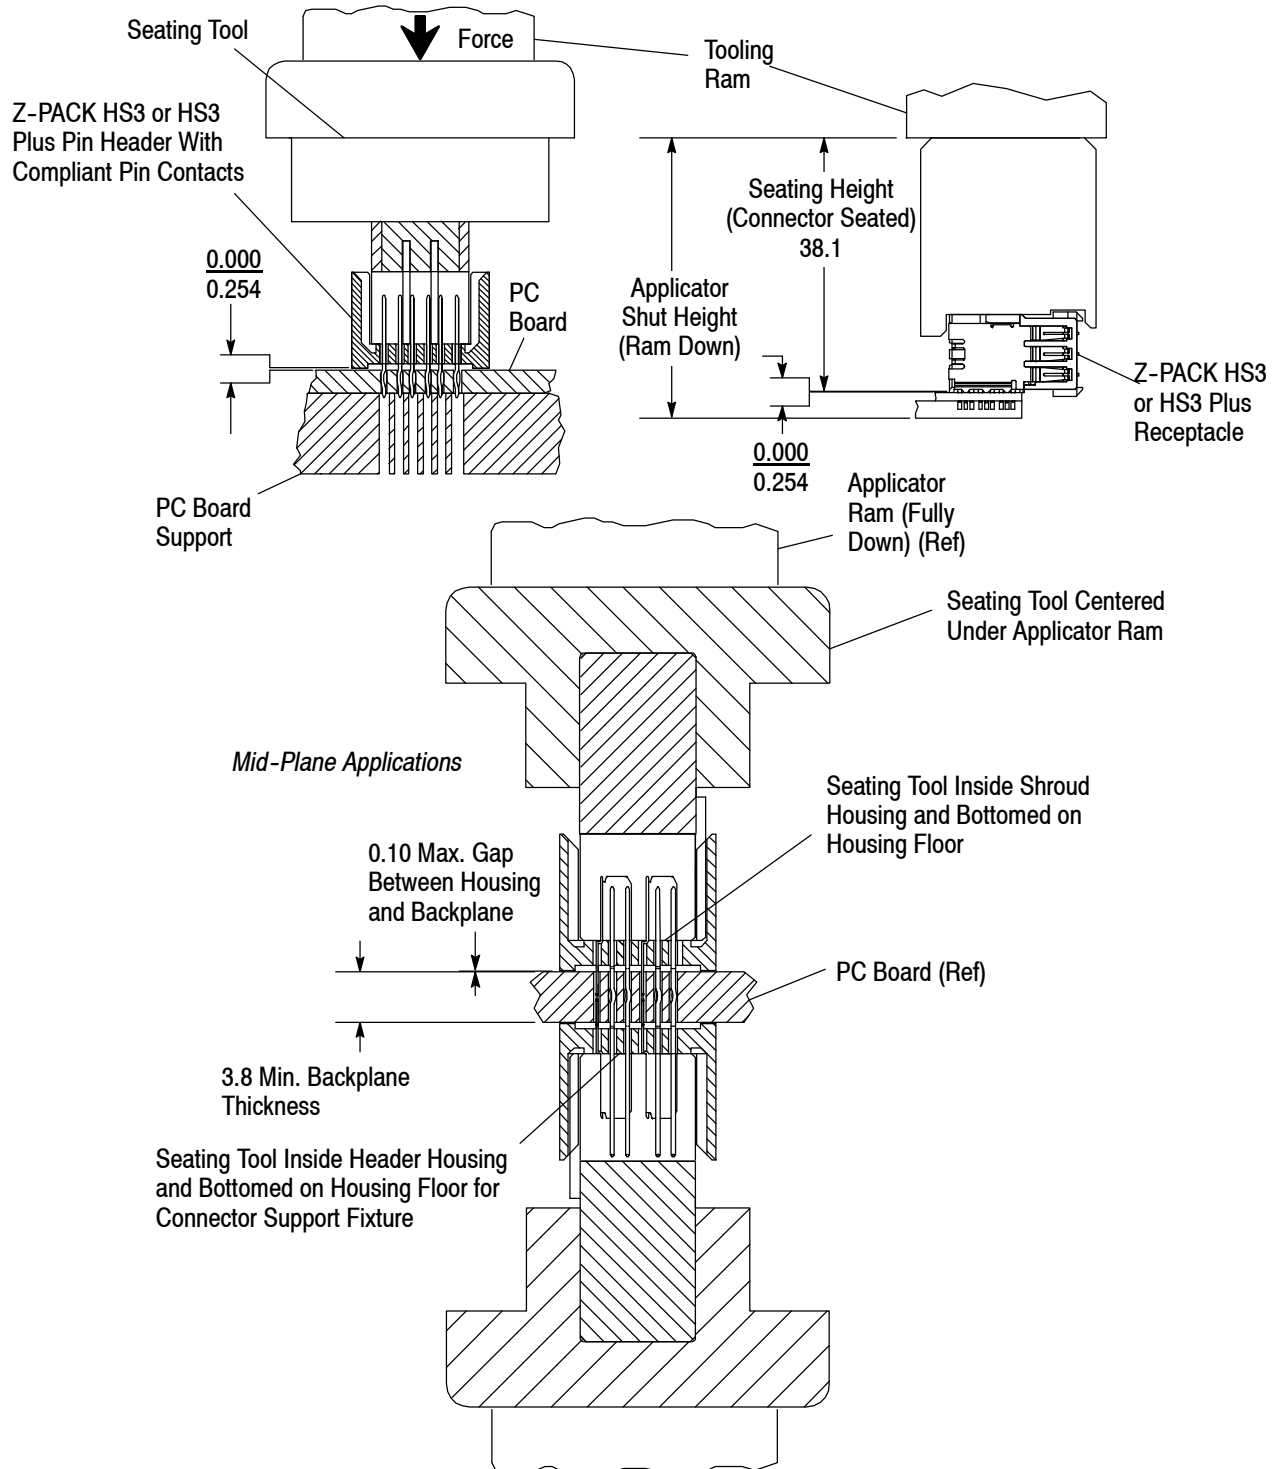

Figure 8
Z-PACK HS3 and HS3 Plus Headers and Receptacles with compliant pin contacts are seated using seating tools 91312-[], 91313-[], 1338743-[], and 1338742-[]. These tools may be used in the application machines listed in Section 5, TOOLING, or with a suitable machine capable of supplying a controllable downward force of 4448 N [1000 lb] *per 100 signal-positions* over the length of the header and 4448 N [1000 lb] *per 100 signal-positions* over the length of the receptacle. Pin headers and receptacles must be seated to the dimension shown in Figure 8.
Seating force must be applied evenly on the connectors to prevent deformation or other damage to the contacts and housings. When installing header connectors, the insertion force must be simultaneously applied to the shoulders of each contact at the bottom of the slots. When installing right-angle receptacle connectors, the insertion force must be evenly applied to the assembly (top surface of the chicklets) as shown in Figure 8. Refer to Paragraph 3.7 for seating force information. The seating force will vary according to the hole diameter and signal pin count. Approximate force to seat the headers will be 2668-4003 N [600-900 lb] *per 100 signal pins*. Approximate force to seat the receptacles will be 1779-2668 N [400-600 lb] *per 100 signal pins*. Approximate force to seat HS3 Plus headers and receptacles will be 2668-4003 N [600-900 lb] *per 100 signal pins*. Tooling recommendations are covered in Section 5.
*Correct seating of connector is essential to interconnection performance. This includes correct seating height (see Figure 8) and force applied. Overdriving of product will deform parts critical to the quality of the connection. Maximum force occurs prior to seating the connectors on the pc board. For 60-position receptacle modules, the maximum force is 2224 N [500 lb]; for 100-position receptacle modules, the maximum force is 3336 N [750 lb]; and for headers, calculate the maximum force at 62 N [14 lb] *per signal pin*. For 60-position HS3 Plus receptacle modules, the maximum force is 2322 N [522 lb]; for 100-position HS3 Plus receptacle modules: 3870 N [870 lb]; and for HS3 Plus headers calculated the maximum force at 25 N [5.6 lb] *per compliant pin*.*